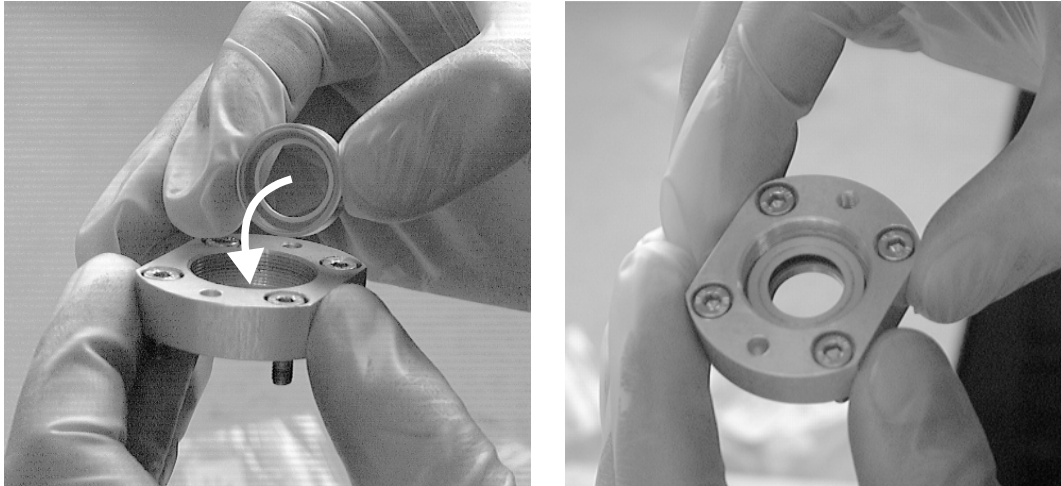

Figure 55: Inserting the window collar into the window mount
12. Insert the window collar top side down into the window mount as shown in Figure 55.